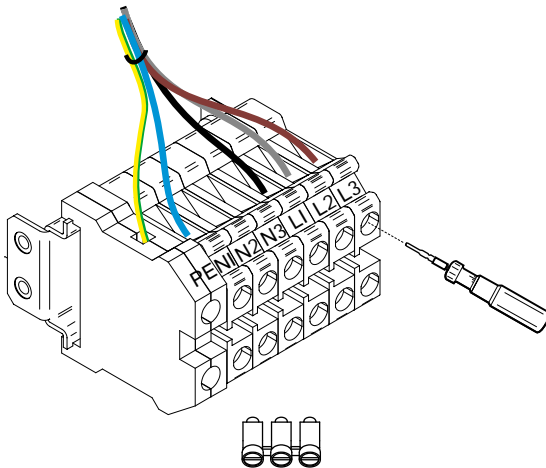

Figure 4-11 AC Cable Connection (3W+N+PE)
- 3-phase 110/190VAC or 230/400VAC (Figure 4-11).